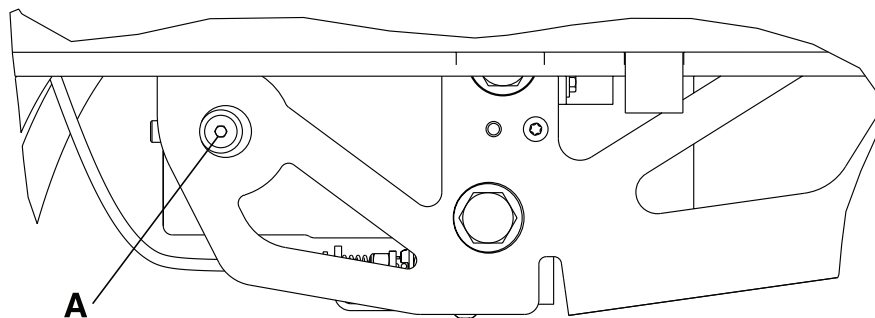

Figure 11: Hydraulic assembly reservoir
3. Using a 3/16" hex wrench, remove the port plug (A). (Figure 11 on page 45).